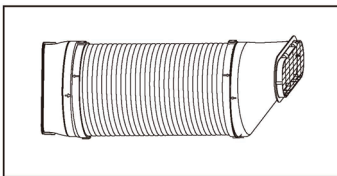

Fig. 3
3. The assembled hose with inlet and outlet connectors appear as Fig 3.